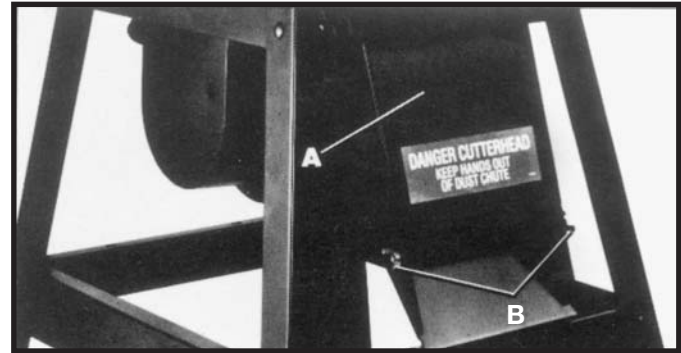

Fig. 71
The dust chute cover (A) Fig. 71, can be removed, for cleaning purposes, by removing the two wing screws (B).